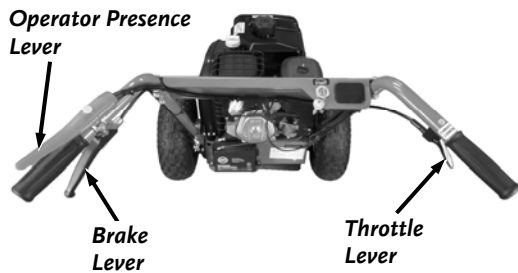

Figure 28
Familiarize yourself with all of the Control Levers and their functions before operating the Stump Grinder (**Figure 28**).
1. Slowly release the Throttle Control Lever to the idle position (**Figure 28**).